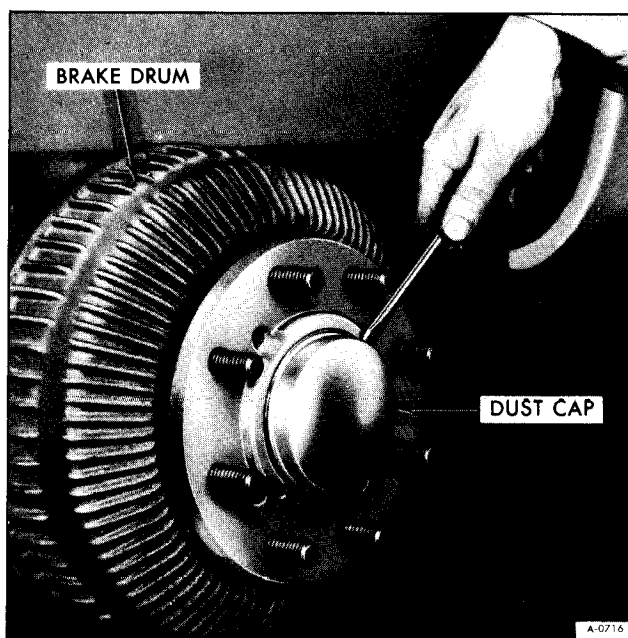

Figure 8-Removing Dust Cap
3. Remove dust cap as shown in Figure 8.